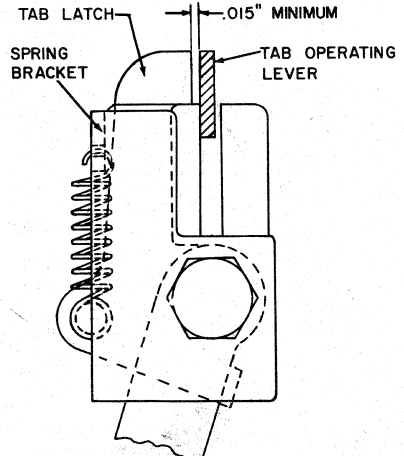

Figure 42
16. Hook up and adjust the carriage return and tab unlatch operating link with the unlatch cam at the high point (Figure 42). Start with the link long and shorten it, by the front clevis, so that the tab latch is pivoted to the rear a minimum of .015" from the rear surface of the tab operating lever, with the tab operating lever pushed to the rear side of the slot in which it operates. Do not adjust the link so short that the tab latch chokes off on the spring bracket.